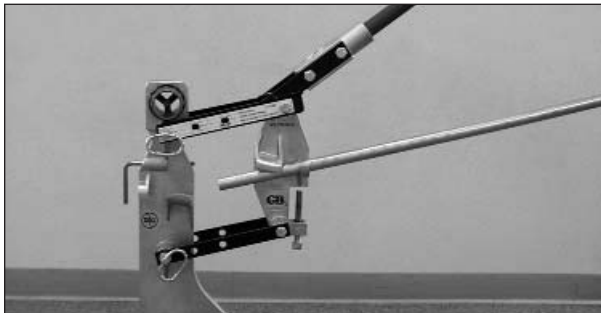

Figure 2
5. Raise the bender handle and insert the conduit into the correct size bending jaws (check bend bracket decals). See Figure 2. Be sure the conduit extends a minimum of 2" beyond the jaw.